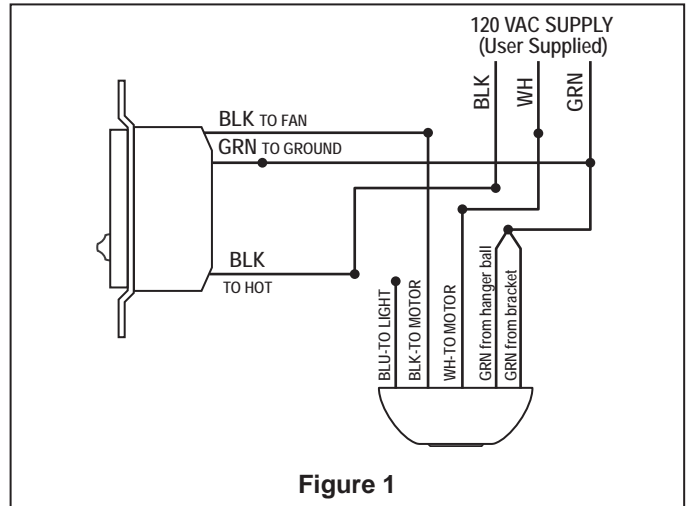

Figure 1
- Make wiring connections with wire nuts as shown in Figure 1.